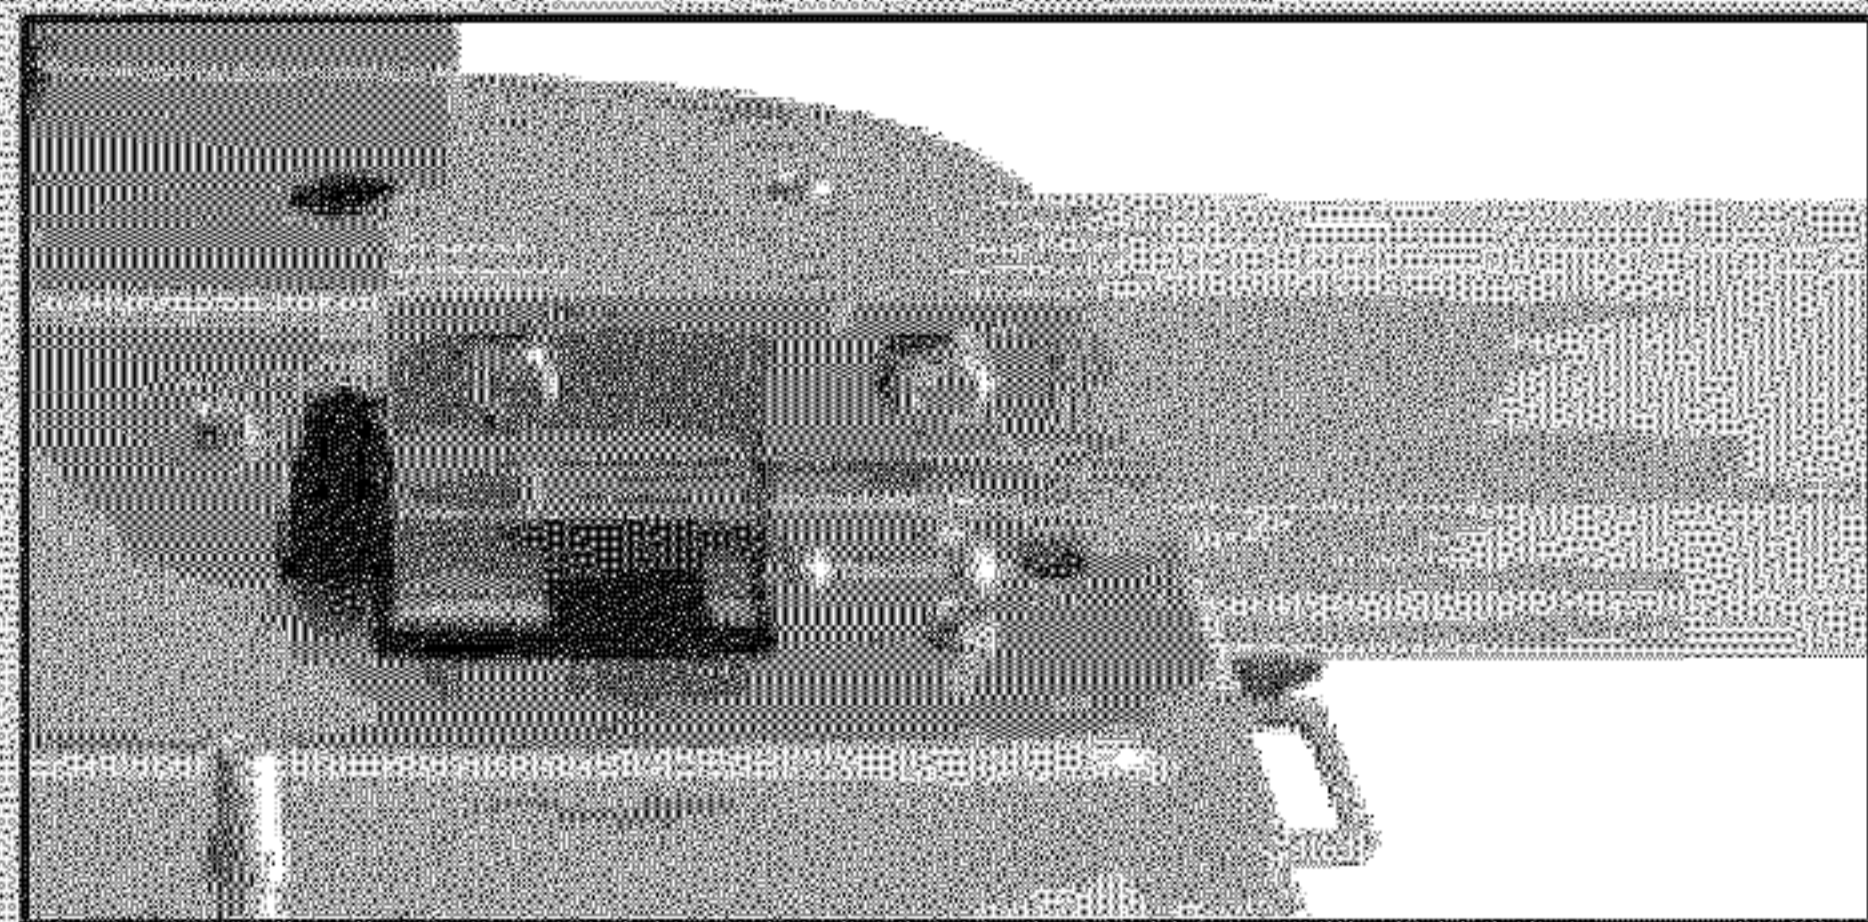

FIG. 1-7 Attach rail to power head.
- Securely fasten with 2 bolts (9) and nuts (10) (Fig. 1-7).